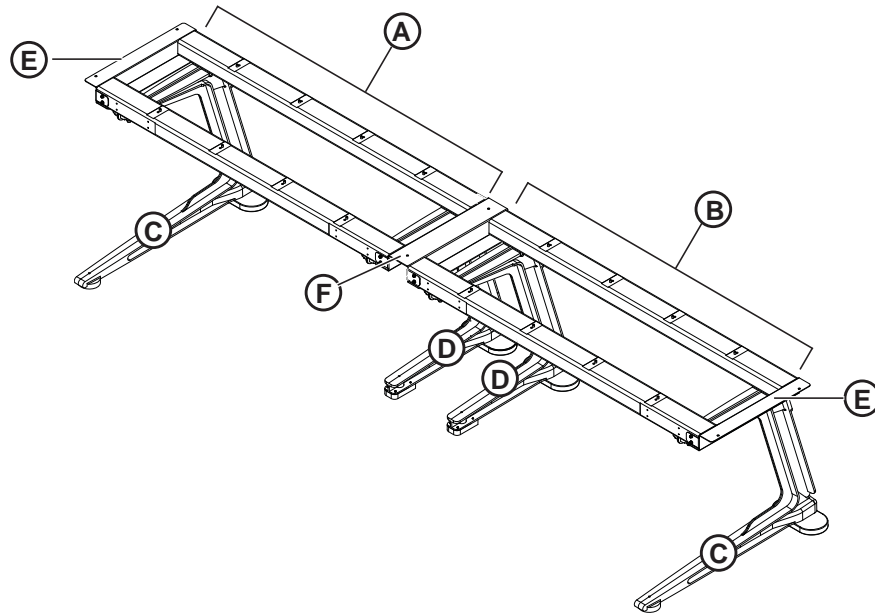

Figure 2. Two assembled frames
Figure 2 shows two assembled and joined frames, and identifies each of the following components:
- Determine which frame will be at the left (A in Figure 2) and which will be at the right (B in Figure 2).
- Assemble the frames one at a time. Each frame uses one standard Leg and one center Leg. Standard Legs are installed at the outside ends (C in Figure 2). The center Legs are installed at the ends where frames join (D in Figure 2).
- Attach an End Bracket (E in Figure 2). Do not fully tighten the fasteners.
- Attach the Center Bracket (F in Figure 2) to the right frame, then move the left frame into position and secure it to the Center Bracket.